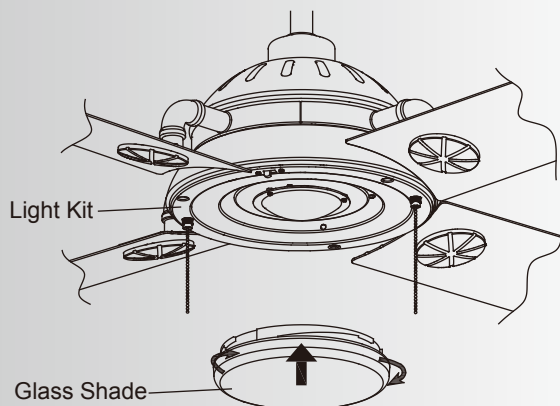

Fig. 21
**Step 1.** Assemble the glass shade to the light kit by twisting in a clockwise direction. Do not overtighten. (Fig. 21)